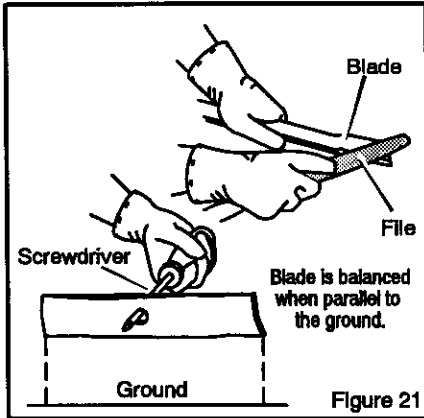

Figure 21
4. Sharpen the blade with a file. Make sure you keep the original beveled cutting edge (Figure 21).